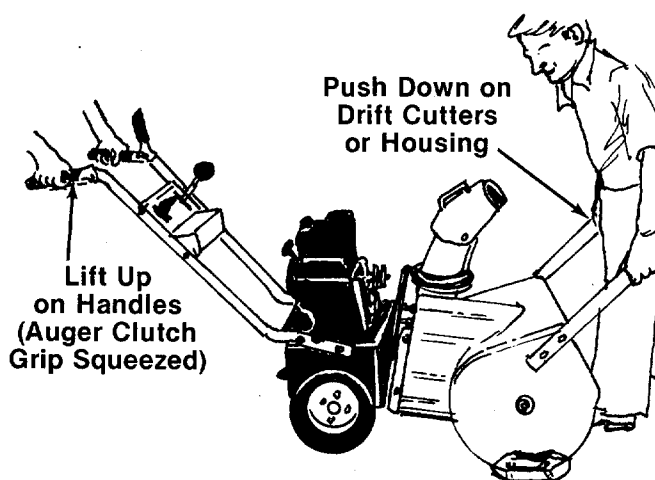

FIGURE 30.
6. To separate the auger housing from the frame assembly, two people are required. One person is in the operating position. Squeeze the auger clutch grip (right hand) as you raise up on the handles. See figure 30. The other person is in front of the unit. Push down on the housing or optional drift cutters. See figure 30. The unit will separate into two pieces.